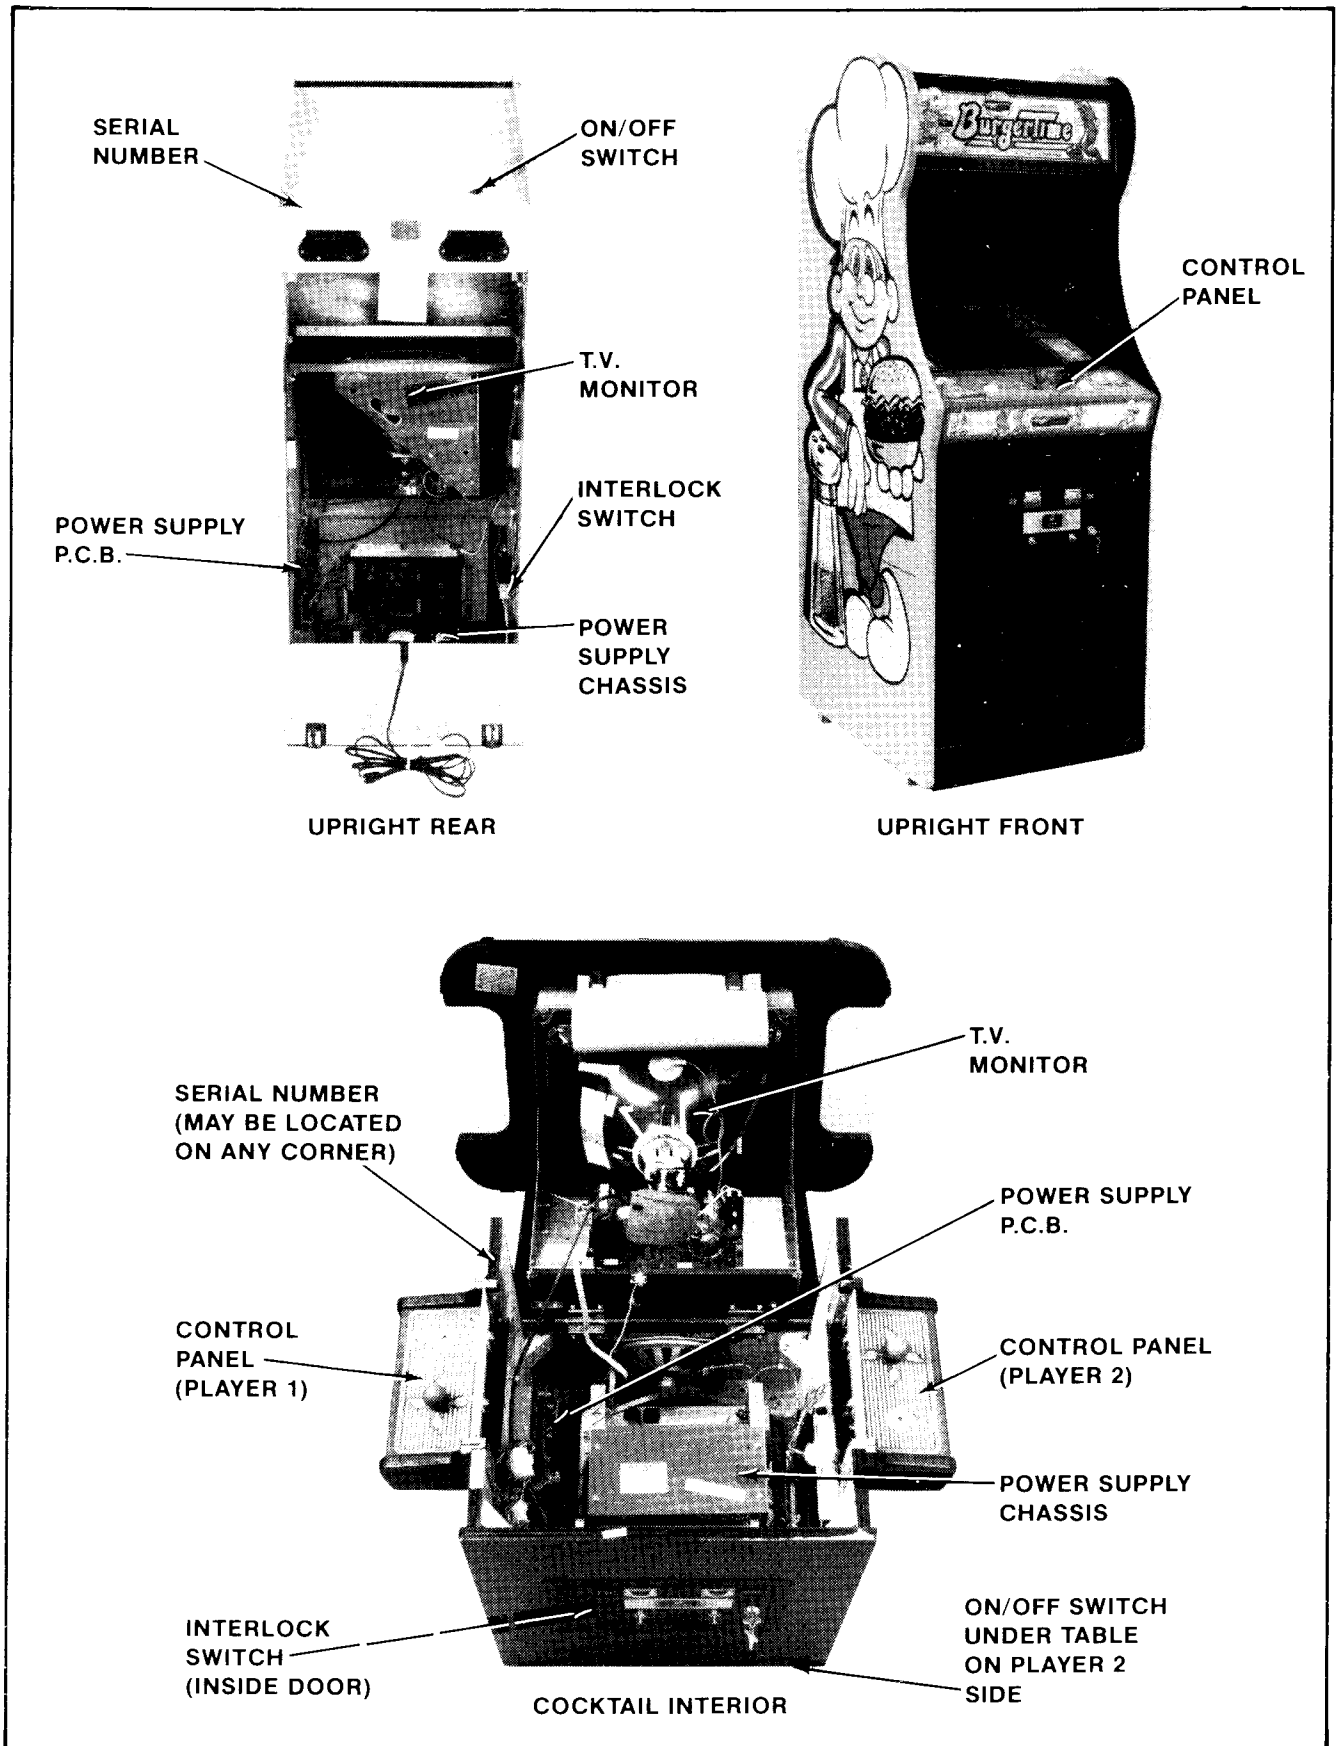

Figure 2-1 Location of Serial No., Interlock Switch, On/Off Switch, & Major Sub Assys.
5. Open the cabinet and inspect the inside of the game for any signs of damage. See Figure 2-1.
- Make sure all printed circuit boards (P.C.B.'s) are firmly seated in their connectors. See Figure 2-1. These connectors are also keyed. The P.C.B.'s will only go into them one way without being damaged.
- Note the location of the game's serial number. See Figure 2-1.
- Check all major subassemblies to be sure they are mounted securely. These are called out in Figure 2-1.
3. Interlock and power ON/OFF switches: See Figure 2-1.
The game ON/OFF switches for both models are located as shown in Figure 2-1. Turn the game on and allow it to warm up a few minutes.